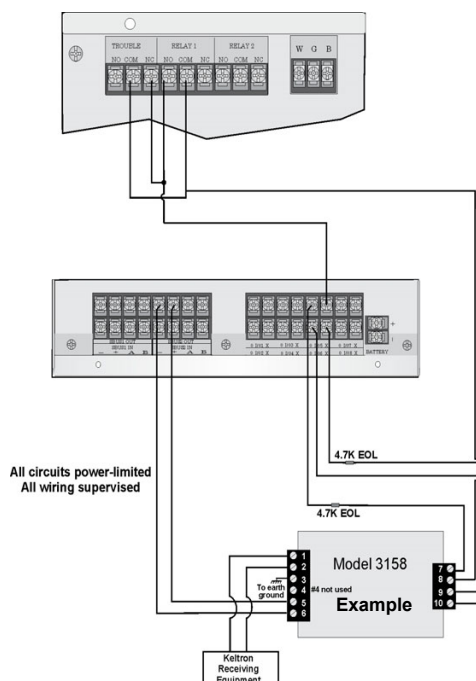

Figure 4-42 Keltron 3158 Connection to Control Panel
1. Wire the 3158 to the control panel as shown in the connection list and Figure 4-42.